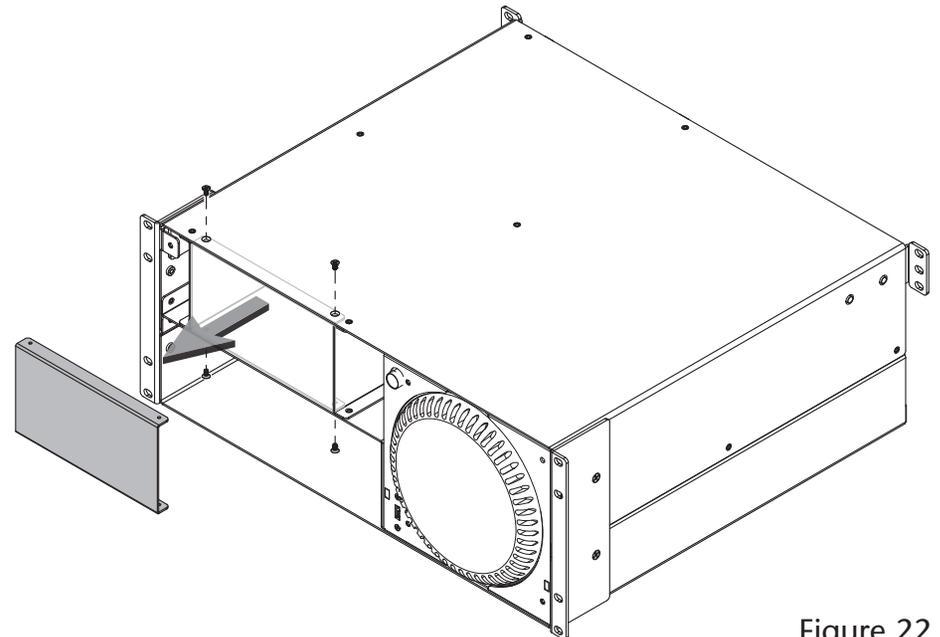

Figure 22
6. Using a Phillips screwdriver, remove and set aside the four screws securing the blank plate inside the enclosure, and then remove the blank plate (**Figure 22**). Note that you will reuse three of the four screws to secure the kit to the rackmount enclosure at a later step.